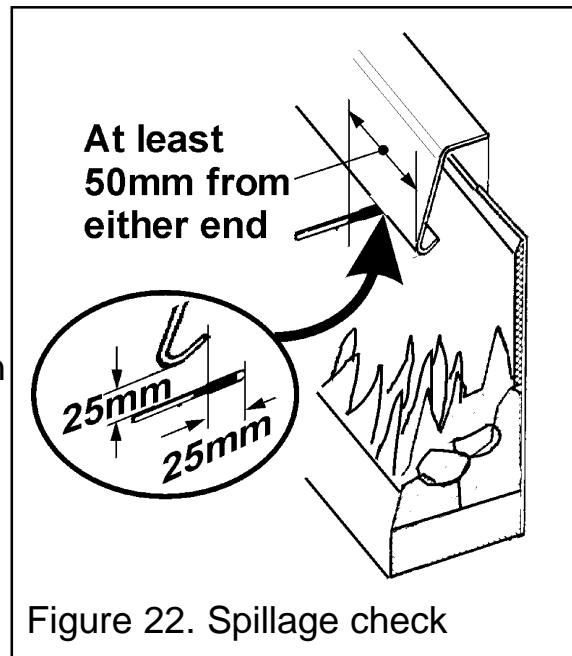

Figure 22. Spillage check
4. Place the smoke match into the appliance canopy (See figure 22).